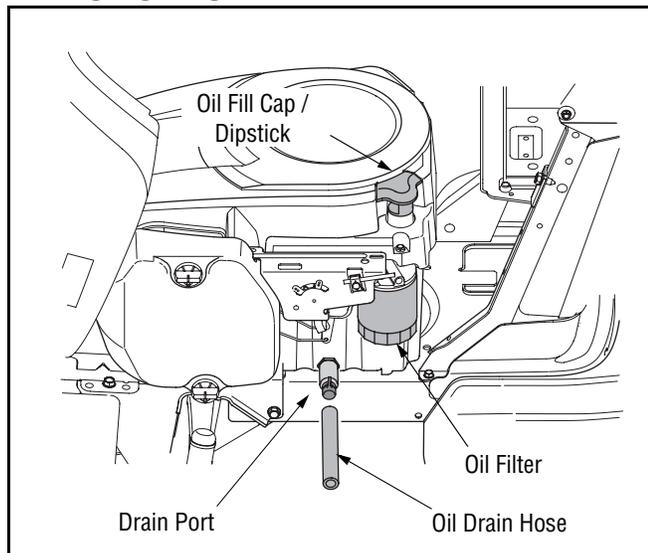

Figure 15
- Unscrew oil fill cap and remove dipstick from the oil fill tube. See Figure 15.
- Pop open the protective cap on the end of the oil drain valve to expose the oil drain port. See Figure 15 .